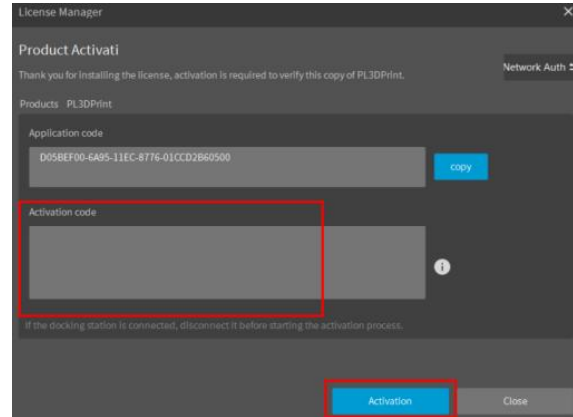

fig. A-2 Input Activation Code
- Enter the activation code in the input field after finishing software installation (see fig. A-2).